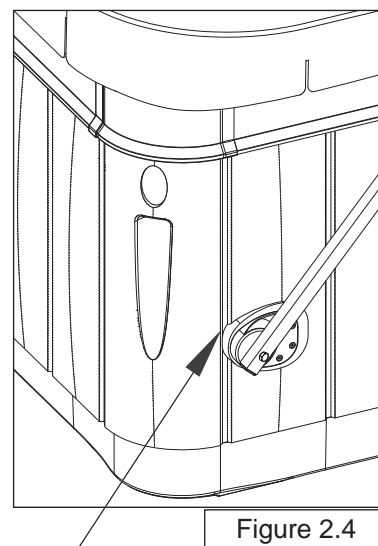

Figure 2.4
Important: Make sure that the Spacer (W) back end fits into the vertical groove between the corner and side panel.(Figure 2.4)